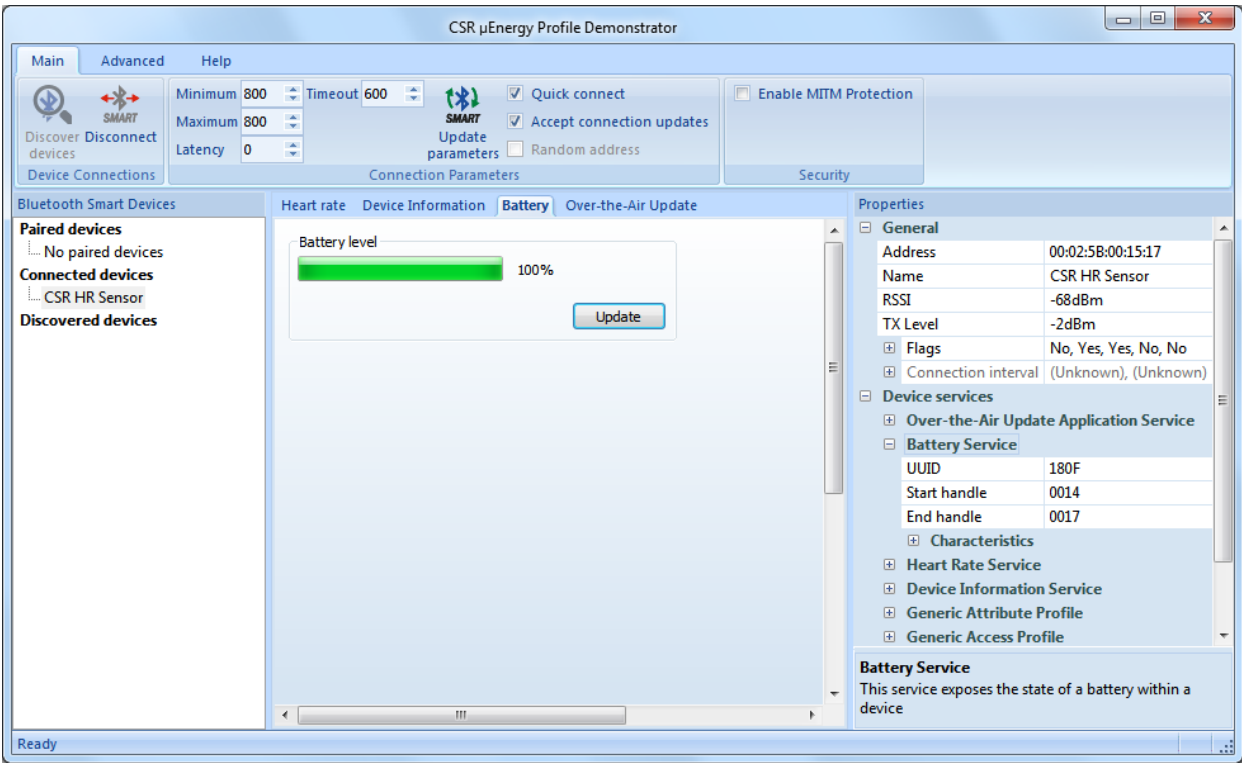

Figure 2.8: Battery Level Tab
5. The **Battery** tab, see Figure 2.8, displays the current state of battery.